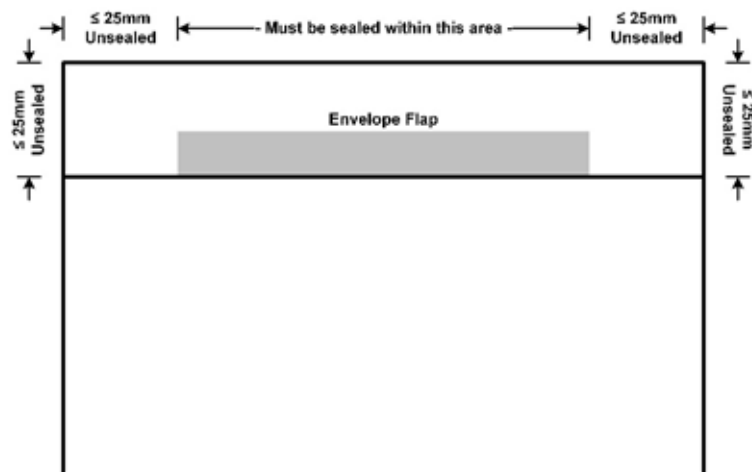

Figure 38 – Large Letter Sealing – Poly Envelope (Not to Scale)
• The opening flap should be sealed to within 25mm of the envelope at the top and sides (see Figure 38).	H 10